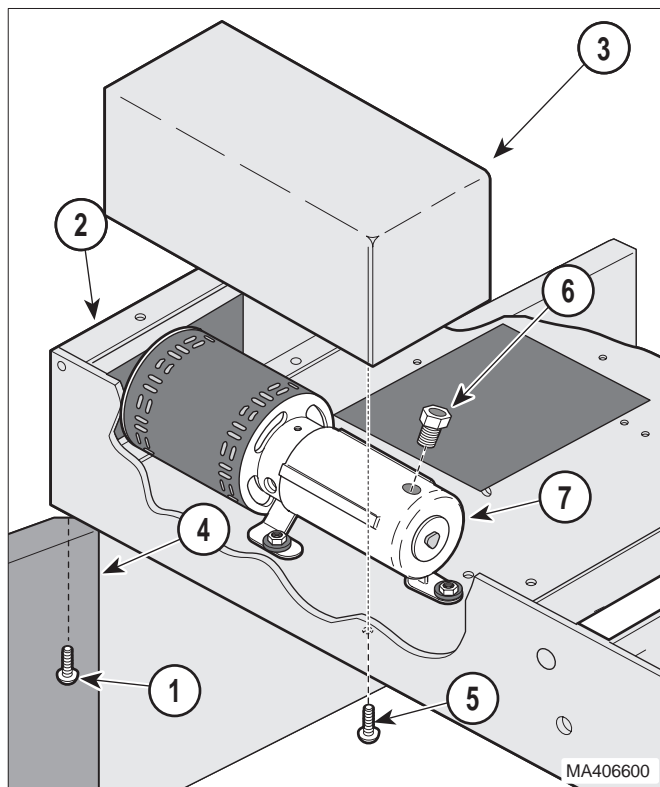
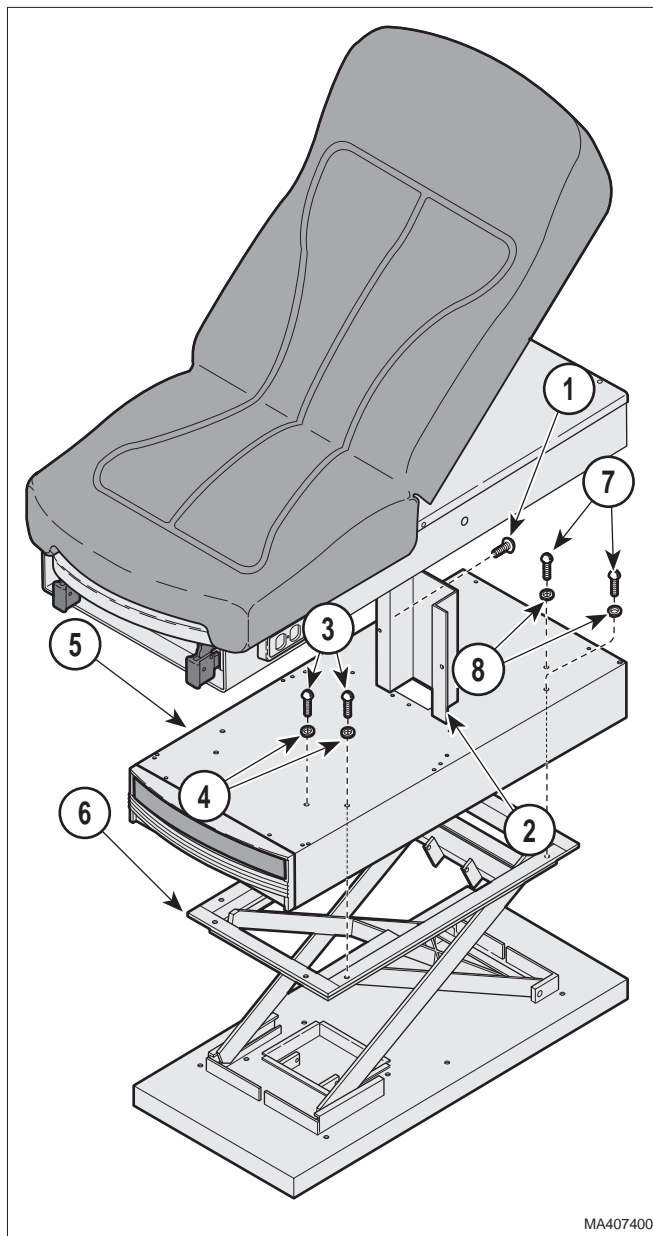

Figure 4-16. Hydraulic Return & Power Hose Removal / Installation
Figure 4-17. Hydraulic Return & Power Hose Removal / Installation
- (1) Access the upper wrap components (Refer to Para 4-8).
- (2) Remove the two screws (1, Fig. 4-16) located on the bottom, outside of the upper wrap assembly (2) at the head-end of the table, that secure the motor cover (3) to the upper wrap assembly (2).
- (3) Open the door (4) on the patient's right-hand side and remove the remaining two screws (5) located beneath the upper wrap assembly (2) that secure the motor cover (3) to the upper wrap assembly (2). Remove the motor cover (3).
- (4) Open one of the doors, remove the two screws (1, Fig. 4-17) that hold the rod cover (2) in place and remove the rod cover (2).
- (4) Carefully lift the table back onto the scissor frame aligning the eight mounting holes in the sub base (5, Fig. 4-17) with the eight mounting holes in the scissor frame (6).
- (5) Secure the sub base (5) to the scissor frame (6) with the eight lockwashers (4,8) and screws (3,4).
- (6) Check the hydraulic oil level (Refer to para 4.9).